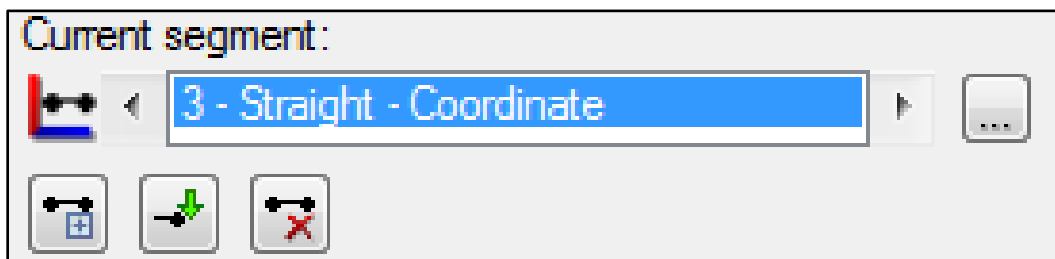

Figure 10.—Toolbar allowing the user to delete or move previously delineated points in each breakline.
- c. Select the first point. Keep selecting points until the breakline is completed. To go back and edit the breakline, scroll through the “Current segment” in the toolbar. This allows the user to delete or move previously delineated points (figure 10).